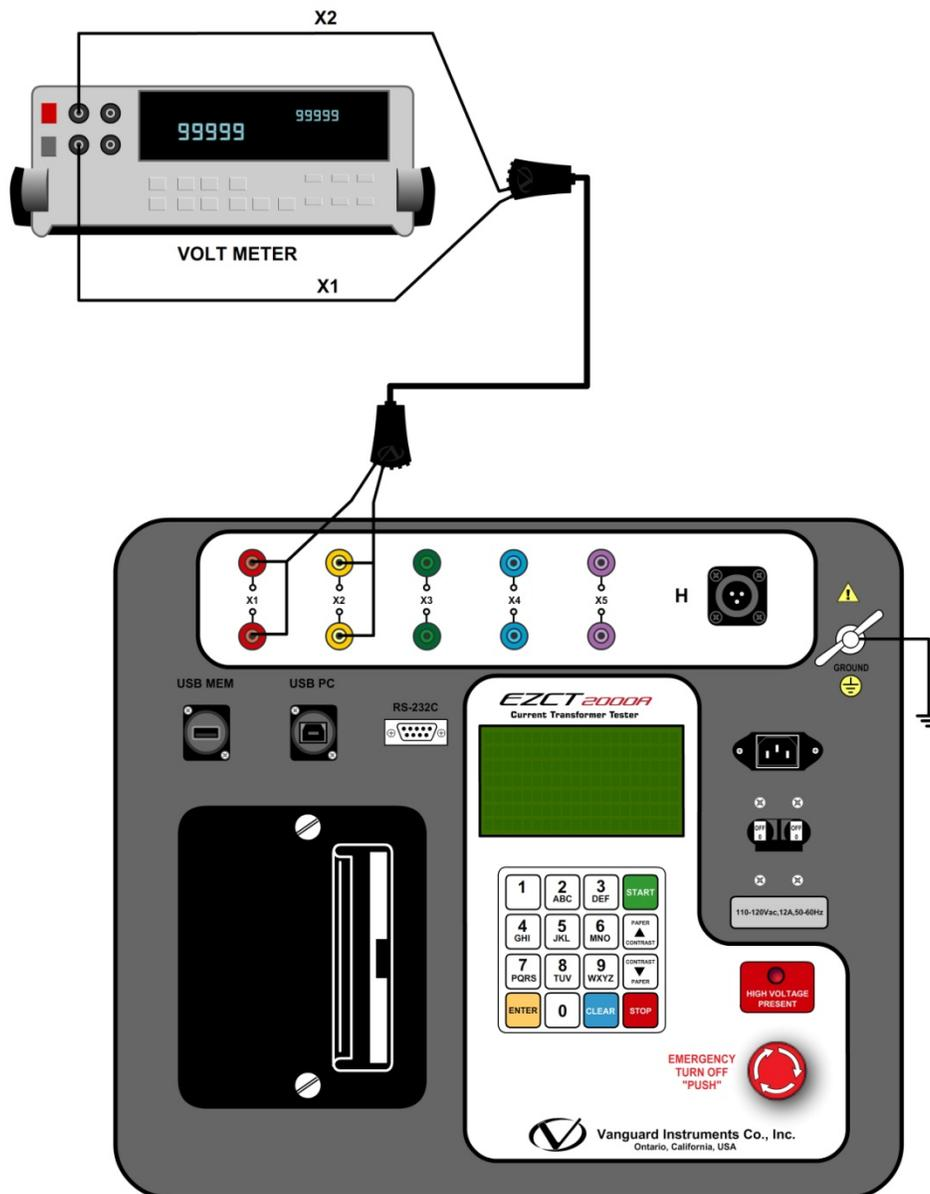

Figure 17. EZCT-2000A  $V_x$  Verification Test Connections
- Connect the X cables to an RMS volt meter as shown in Figure 17.